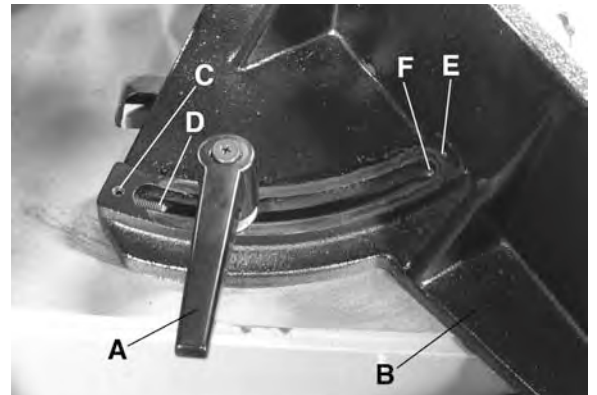

FIGURE 12
The vise can be adjusted to cut any angle from a straight 90 degree cut-off to 45 degree angle. To adjust the angle of both vise jaws, first loosen the spring loaded clamp handle (A) Fig.12 on the right side vise jaw (B) and position it to the desired angle and retighten the spring loaded handle.
3. If an adjustment is necessary, loosen clamp handle and then loosen locking set screw (C) Fig.12 and turn adjusting set screw (D) until the vise jaw is at 45 degrees to the blade. Note: The end of set screw (D) should contact the stud of clamp handle when vise jaw is 45 degrees to the blade. Then tighten set screw (C).
6. If an adjustment is necessary, loosen clamp handle and then loosen locking set screw (E) Fig.12 and turn adjusting set screw (F) until the vise jaw is 90 degrees to the blade. Note: Turn set screw (F) from the opposite end, through the face of the vise jaw. The end of set screw (F) should contact stud of clamp handle when vise jaw is 90 degrees to the blade. Then tighten set screw (E).